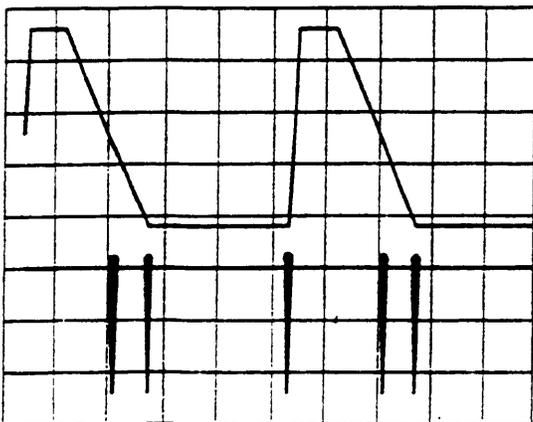

Figure 6. Loop Amplifier -5.0 Vdc Lock-Up.
6. Verify that the oscilloscope display shown in Figure 6 is correct. Note the lock-up point of approximately -5.0 Vdc on the Channel A display and that lock-up occurs on the second beatnote detected during ramp down of the Loop Amplifier.